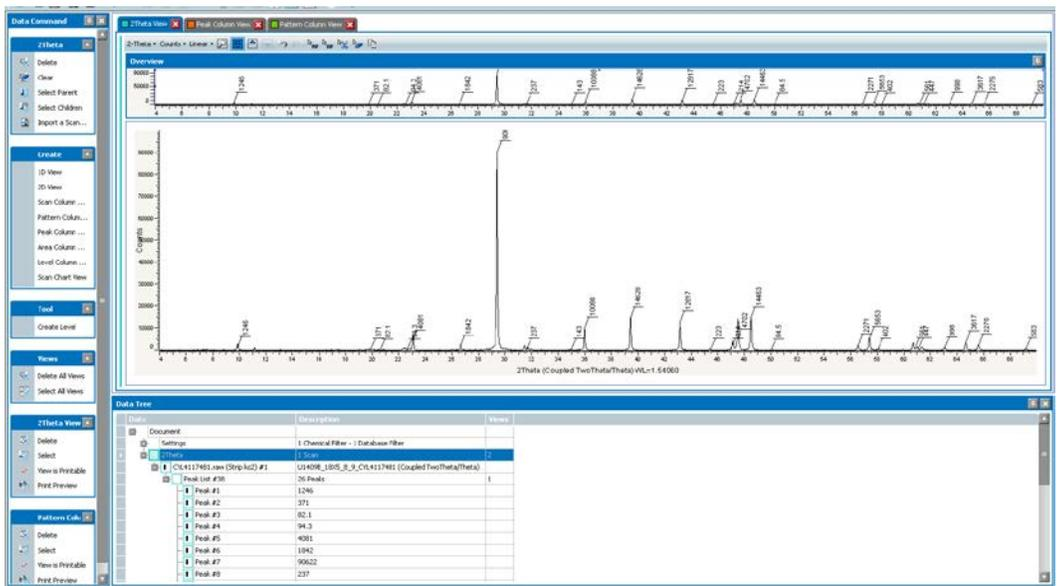

Figure 10. Peak Search with Append List.
5. To select specific peaks click **Append to List** and a peak list is created in the Data Tree (*Figure 10*).